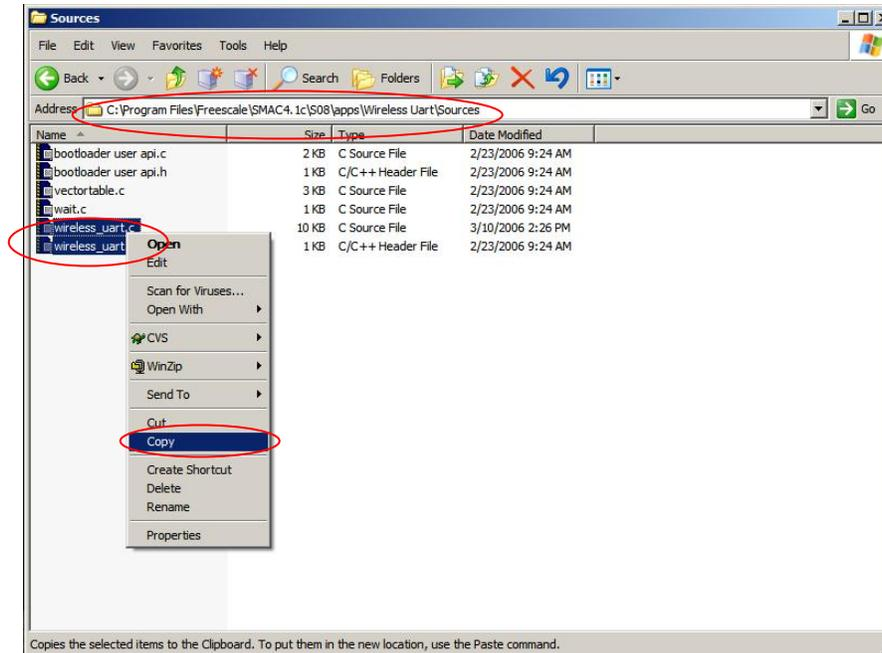

Figure 14. Copying Wireless UART Sources Files
- Select and copy the source and header files as shown in Figure 14. For the Wireless UART application, user needs to copy the `wireless_uart.c` and the `wireless_uart.h` files. For other applications, the user needs to copy the application specific (sources and headers) files.